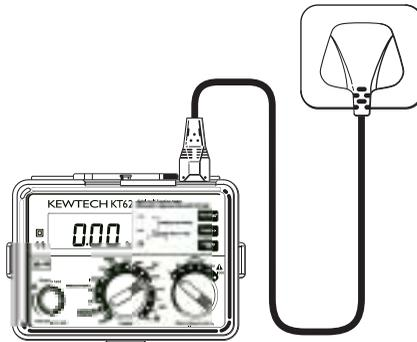
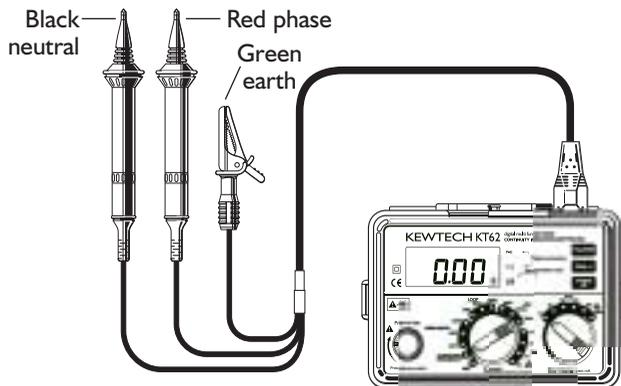

Fig 9
Fig 10
- 2 If testing sockets, connect the plug lead to the KT62 and push the moulded plug into the socket to be tested (see Fig 9).
- 3 Check that the wiring lamps are lit Green (PE), Green (PN) and the third red LED is OFF
- 6 If testing lighting or other circuits, connect the three-wire lead to the KT62, connect the red (phase) lead to the phase connection of the circuit under test, connect the black (neutral) lead to the neutral connection of the circuit under test, and connect the earth lead to the earth associated with the circuit. (see Fig 10).
- 4 Connect the instrument to the RCD to be tested either via a suitable socket outlet (see fig 9) or using the test lead set (see fig 10).